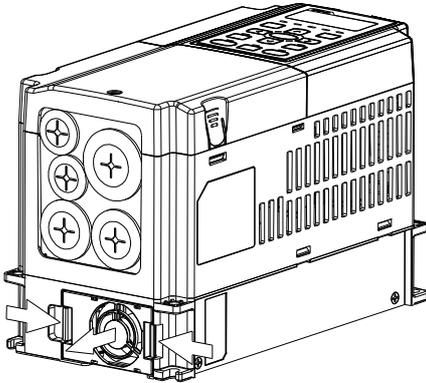

Figure 1
1. Refer to Figure 1, press the tabs on both side of the fan to successfully remove the fan.